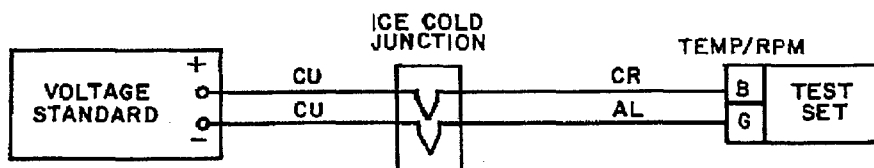

Figure 5-1. Thermocouple Input Calibration Setup
11. Make calibration setup of figure 5-1.